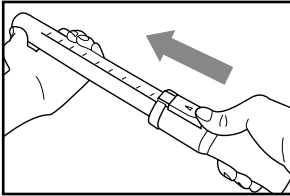

Fig. 4
Once the attachment has been fitted, it is possible to extend the telescopic tube using the lever (Fig. 4) to move it to the required length. Release the lever to stop the tube in the required position.
- Push the slider device (V) forwards and pull the bottom section of the tube out to the required length (Fig. 4). Then simply re-lease the slider and the device will return to its original position.